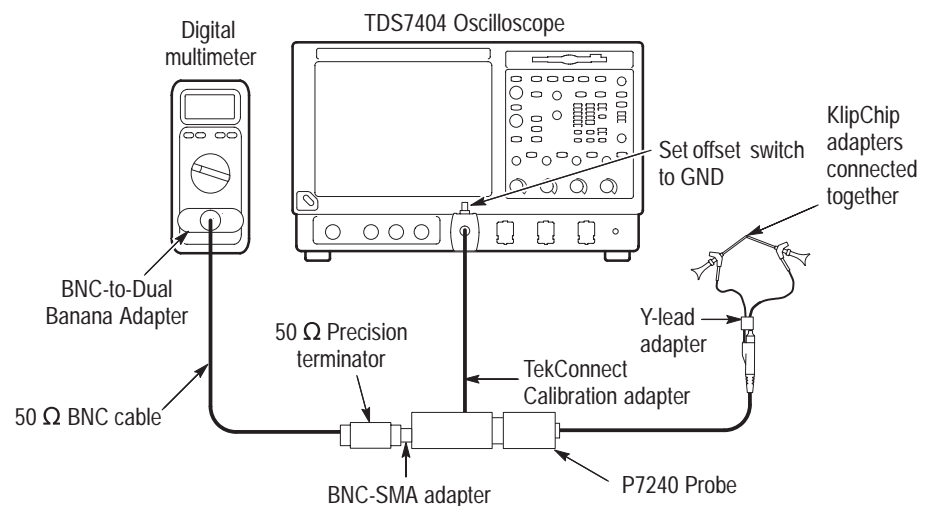

Figure 10: Setup for offset zero
1. Connect the test equipment as shown in Figure 10.